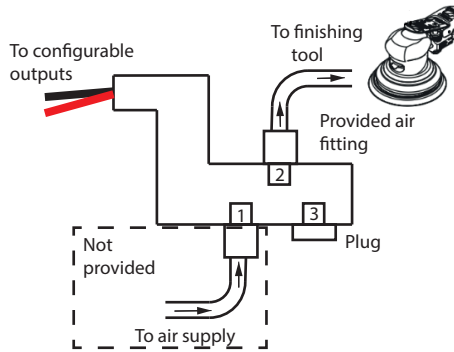

Figure 3. Supplying air to your valve.
1. Refer to the figure 3 for the following steps.